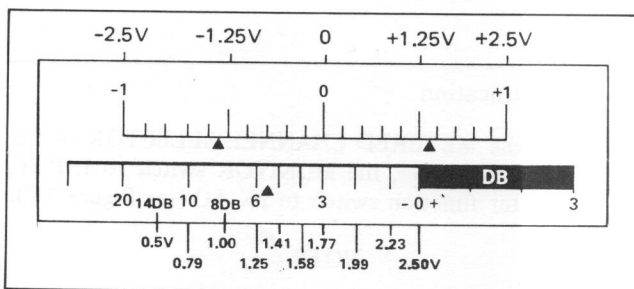

Figure 3-8. Recorder Meter Scale
- h. Adjust the channel **INPUT LEVEL** control for a reading of 0 dB on the meter (see Figure 3-8). This function sets the FM deviation to 40%, thereby providing the optimum signal-to-noise ratio.
- c. Adjust the channel OUTPUT LEVEL control for the desired peak output as indicated on the lower scale of the meter (see Figure 3-8).
3-22. There are no operator adjustments to compensate for different types of tape. See Section V (paragraph 5-83) for tape equalization adjustment procedures. The Direct Record/Reproduce PCA's in the 3964A and 3968A are the same, except for jumper connections on the PCA installed in the 3964A (see Figure 3-8). For 3964A operation, the jumpers are connected between pins "C" and "4". In a 3968A, the jumpers are connected between pins "C" and "8".
h. Adjust the INPUT LEVEL control associated with the channel being calibrated to obtain a reading of 0 dB on the lower scale of the meter (see Figure 3-8).
A 0 dB indication on the meter scale (see Figure 3-8) indicates a 2.5V peak output. Setting the meter needle on the red triangle on the lower scale provides a 1V rms (1.414V peak) sinewave output.